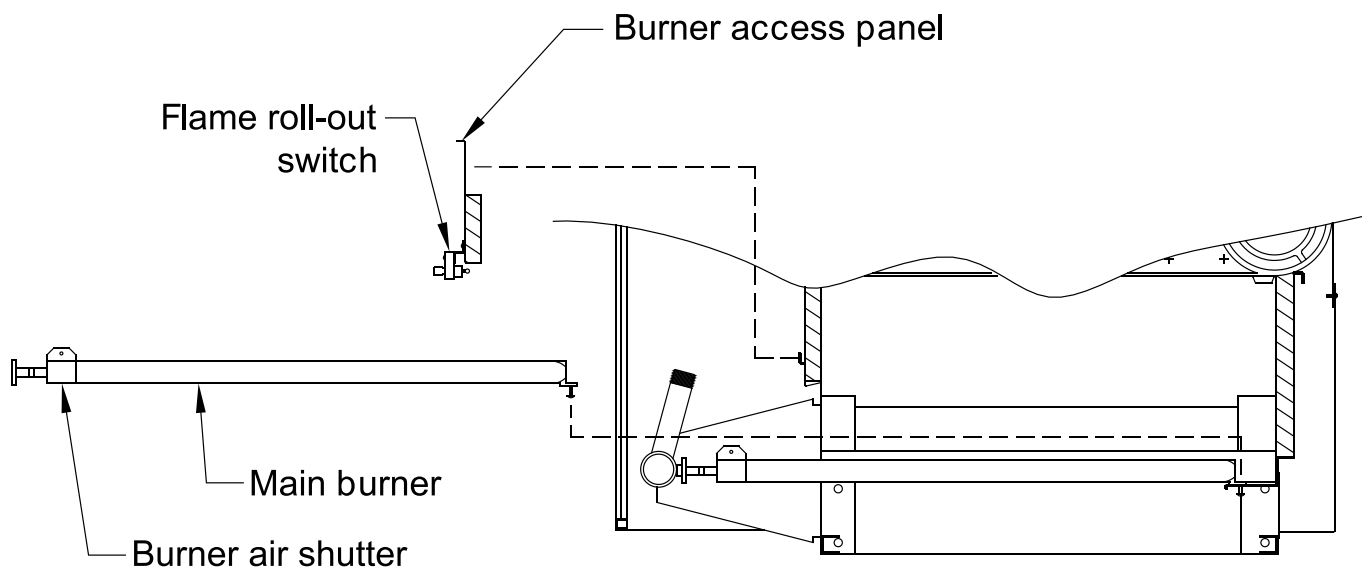

Figure 2-7: Burner/Burner Access Panel Installation
- K. Install Pilot/Main Burner Assembly. See Figure 2-7. Assembly is located in Combination Boiler Parts and Control Carton. Verify assembly is properly located on support bracket in Base Rear Panel, seated on Main Burner Orifice, and secured with hitch pin clip.
- L. Burner Air Shutters. See Figure 2-7. (On Packaged Boilers, Front Door and Burner Access Panel(s) must be removed to make adjustments.) Initial setting of burner air shutters should be between fully open and approximately 11/16 in. between front edge of Burner Air Shutter and burner mounting ring should be approximately 11/16 in. To adjust this distance, loosen screw at top of air shutter and slide into correct position. Then tighten screw. (Replace Burner Access Panel(s) and Front Door on Packaged Boilers.)